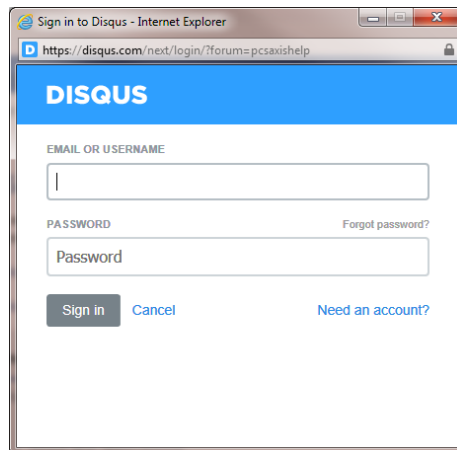

Figure 1-5. Disqus Login
- b Provide login credentials for your Disqus account when the *Sign in to Disqus* dialog box opens (Figure 1-5).